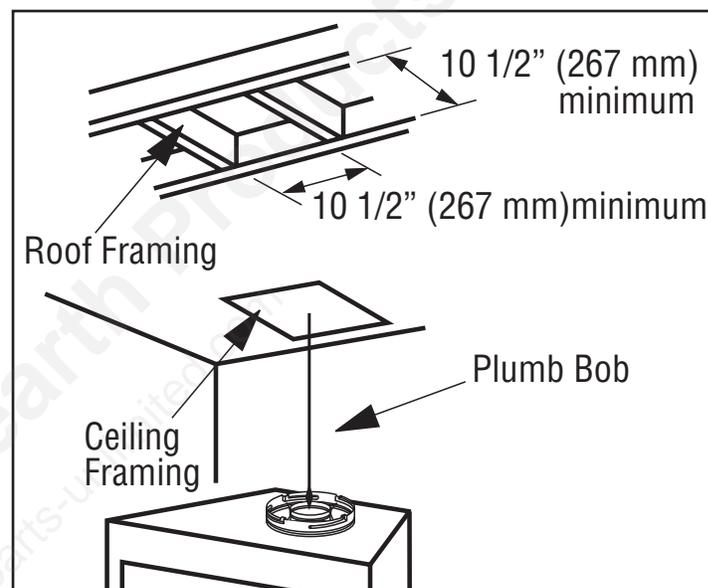

Figure 17 - Framing the ceiling opening
- 3. Frame the ceiling opening**—If the vertical route is to penetrate a ceiling, use plumb line to locate the center above the fireplace. Cut and/or frame an opening, 10 1/2 x 10 1/2" (267 x 267 mm) inside dimensions, about this center (Figure 17, page 17).
2. **Frame the ceiling opening**—Use a plumb line from the ceiling above the fireplace to locate the center of the vertical run. Cut and/or frame an opening, 10 1/2 x 10 1/2" (267 x 267 mm) inside dimensions, about this center mark (Figure 17).